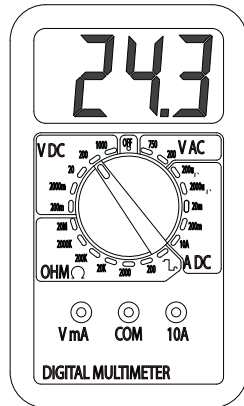

fig. 4.1.1
1. Check for battery voltage at the hand control using a Multimeter. Connect the Multimeter between the two outside pins (fig 4.1.1), pin 1 is positive (+), pin 2 is negative (-). Note: Positive is on the right.